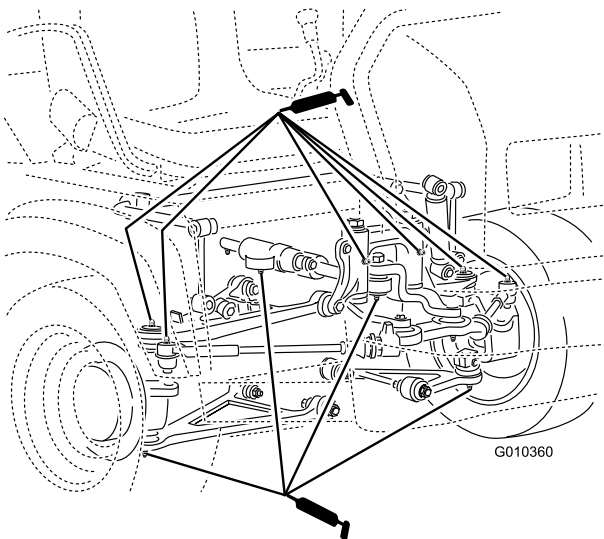

Figure 38
- Ball joints (4), tie rods (2), pivot mounts (2) and steering cylinder (2) (Figure 38)